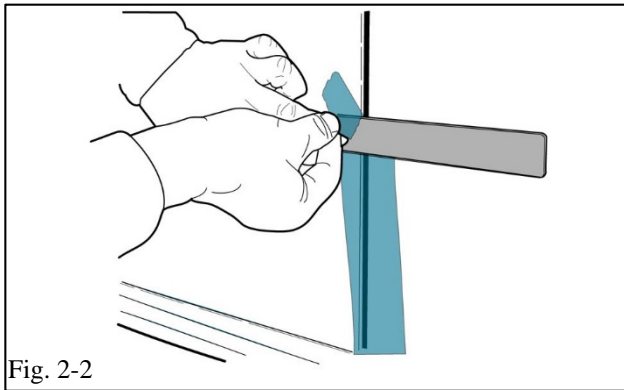

Fig. 2-2
- (c) Tear the tape along a horizontal line at the marked locations from Step 2(b) (Fig. 2-2).